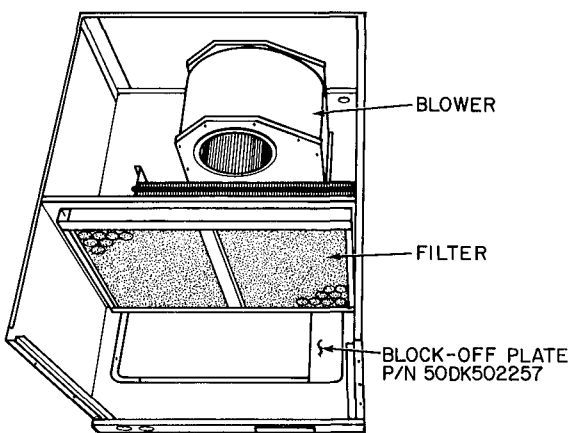

Fig. 19 – Vertical Discharge Block-Off Plate (Sizes 012,014 only)
4. On 48LJ012,014 units, install vertical discharge block-off plate over duct openings. See Fig. 19.